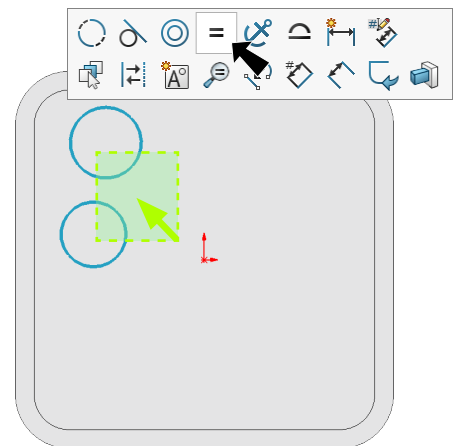

Fig. 17
Step 6. **Drag selection to left to select both circles** and click **Make Equal**  on the context toolbar, **Fig. 17**.